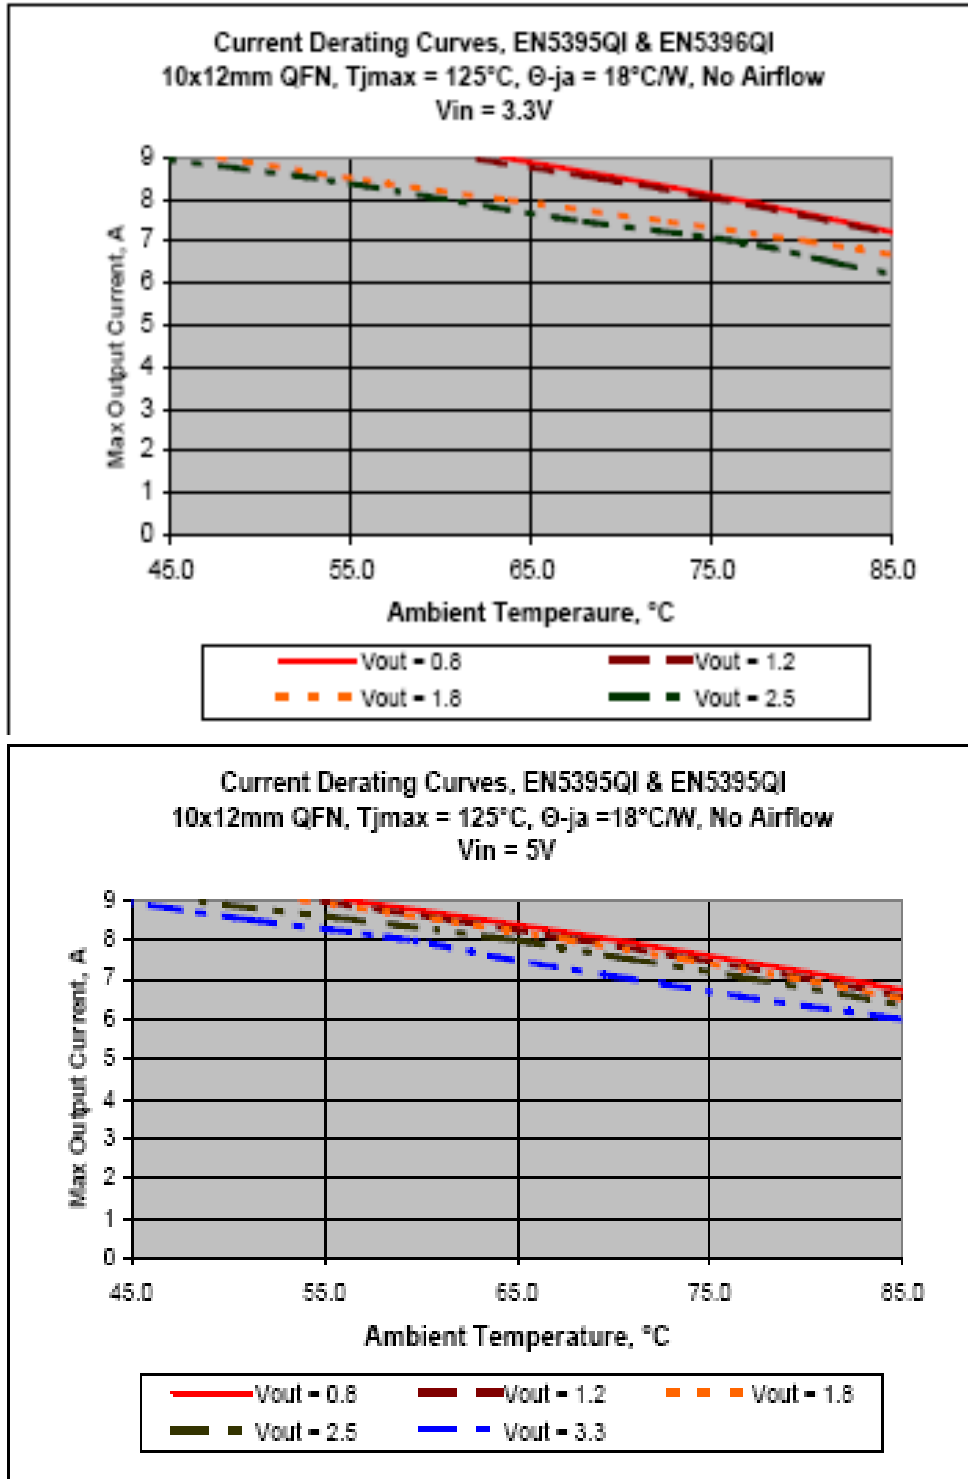

Figure 3. Current Derating Curves
8. **DERATING:** The evaluation board may not be operated with maximum power dissipation (input power – output power) beyond a certain temperature (reference current derating curves in figure 3) for extended periods of time. The device will shut down when the internal junction temperature exceeds ~150°C.